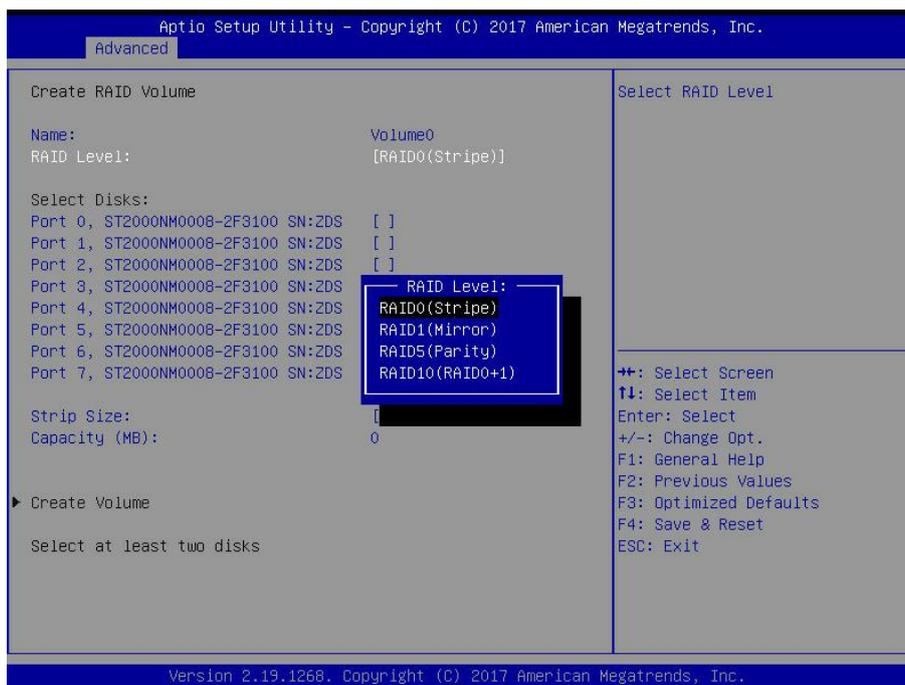

Fig.6.6
c) RAID Level: select the RAID level, as shown in Fig. 6.6